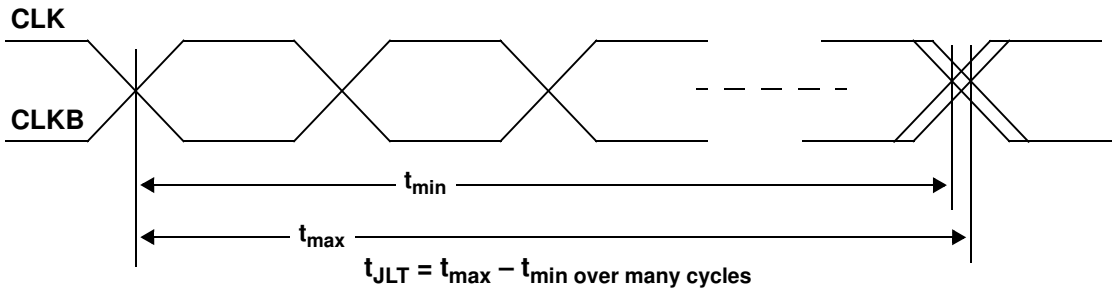

Figure 9. Long-term Jitter
*Figure 9* shows the definition of long-term jitter error. Long-term jitter is defined as the accumulated timing error over many cycles (typically 12800 cycles at 400 MHz). It applies to both rising and falling edges.  $t_{JLT}$  is defined as the long-term jitter.